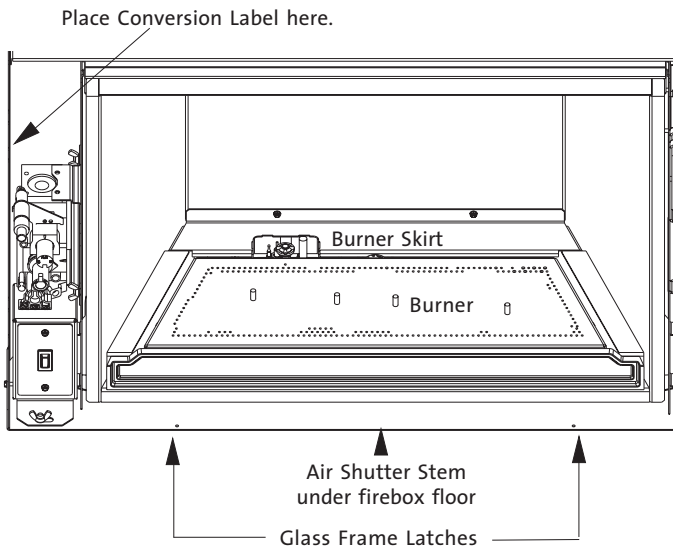

Figure 2. Firebox component identification.
Detach the Burner Skirt from the firebox with removal of the two sheet metal screws. See fig. 2.
- 8. Fill out the High Altitude Conversion Label** (fig. 5.) and apply it to the inside wall of the Control Valve compartment where it will be plainly visible to anyone servicing the insert (fig. 2.).